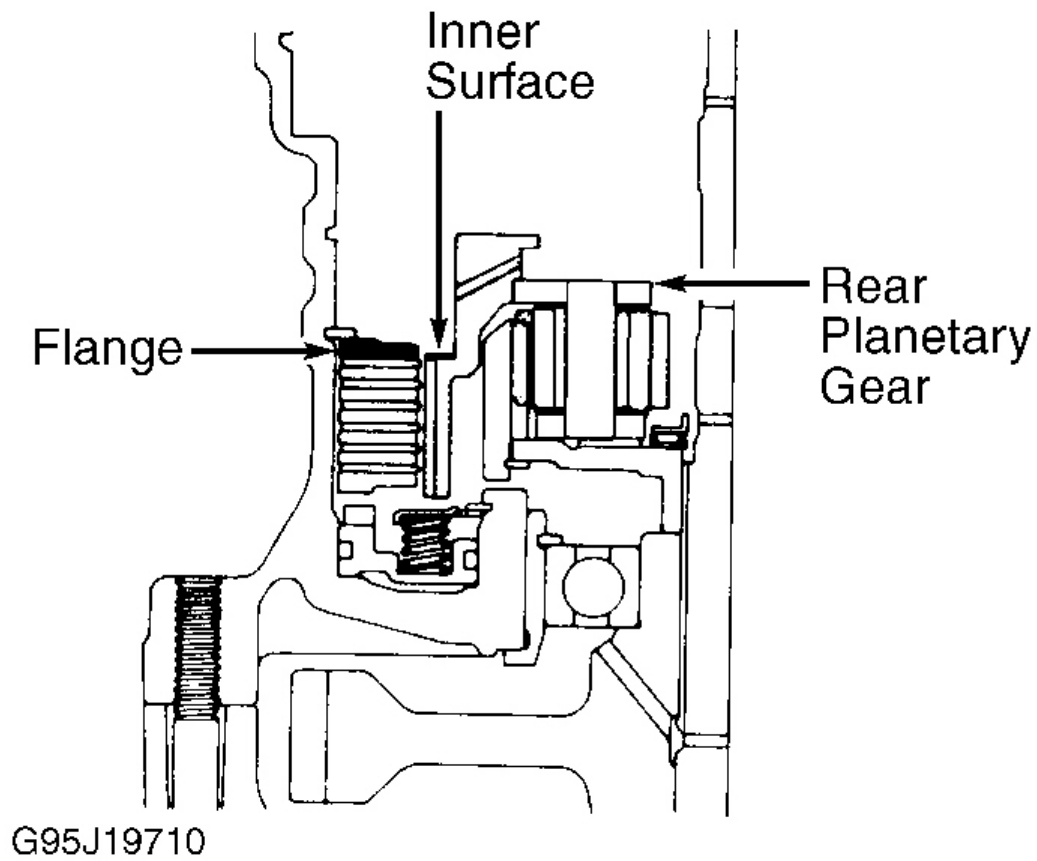

Fig. 80: Checking Rear Planetary Installation
17. Align spline of planetary gear with tabs of 1st and reverse brake discs. Install rear planetary gear into 1st and reverse brake. Ensure inner surface of rear planetary gear is below upper surface of flange. See **Fig. 80** . Install No. 2 one-way clutch with shiny side upward. Rotate planetary gear clockwise while installing No. 2 one-way clutch.